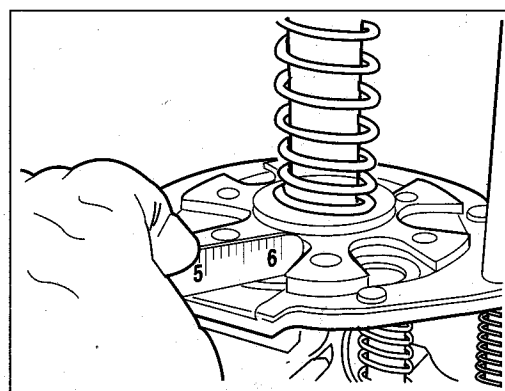

Figure 53
4. Put a straight edge in the track above the shell lifter, Figure 53.